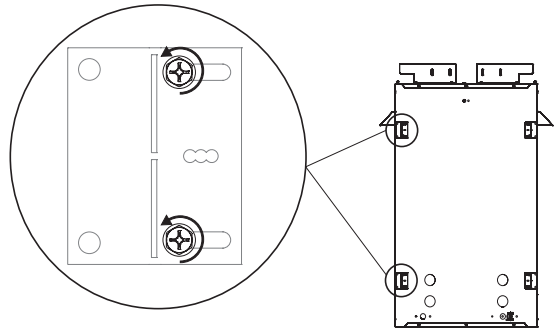

Figure 14
4. Loosen but do not remove the eight screws securing the nailing flanges to the firebox. **See Figure 14.**